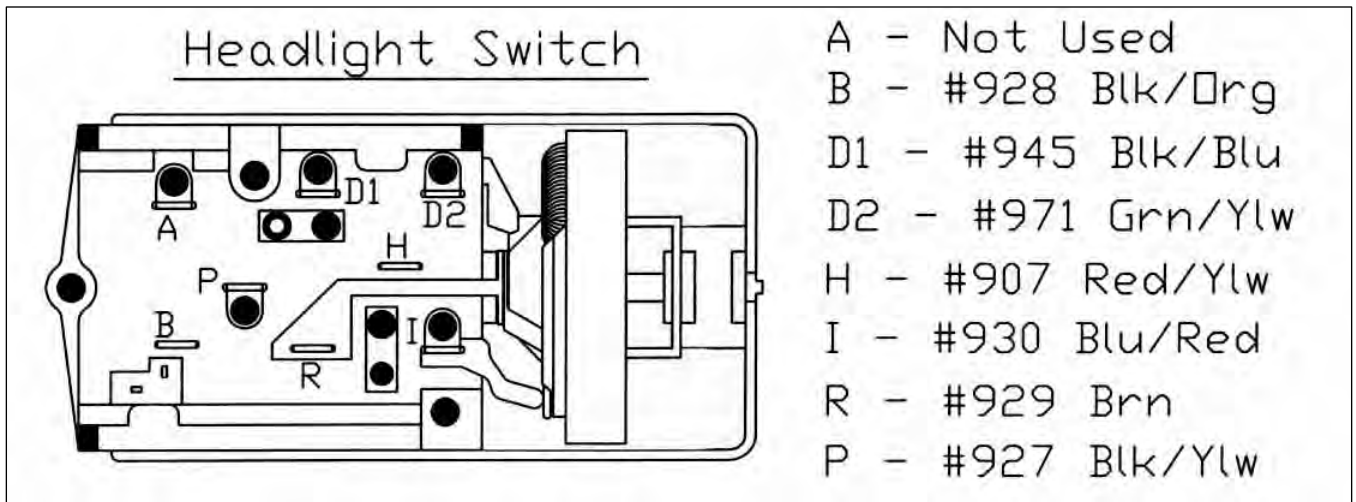

Figure 7-18 Headlight Switch Connections (All Models)
- 7.8.1** Connect the HEADLIGHT SWITCH wires as illustrated in **Figure 7-18**. After completing the installation of the Headlight Switch wires locate the DASH GROUND #969 wire, which is directly above the steering column in the main body of the harness and connect it to the chassis ground screw behind the gauge cluster.